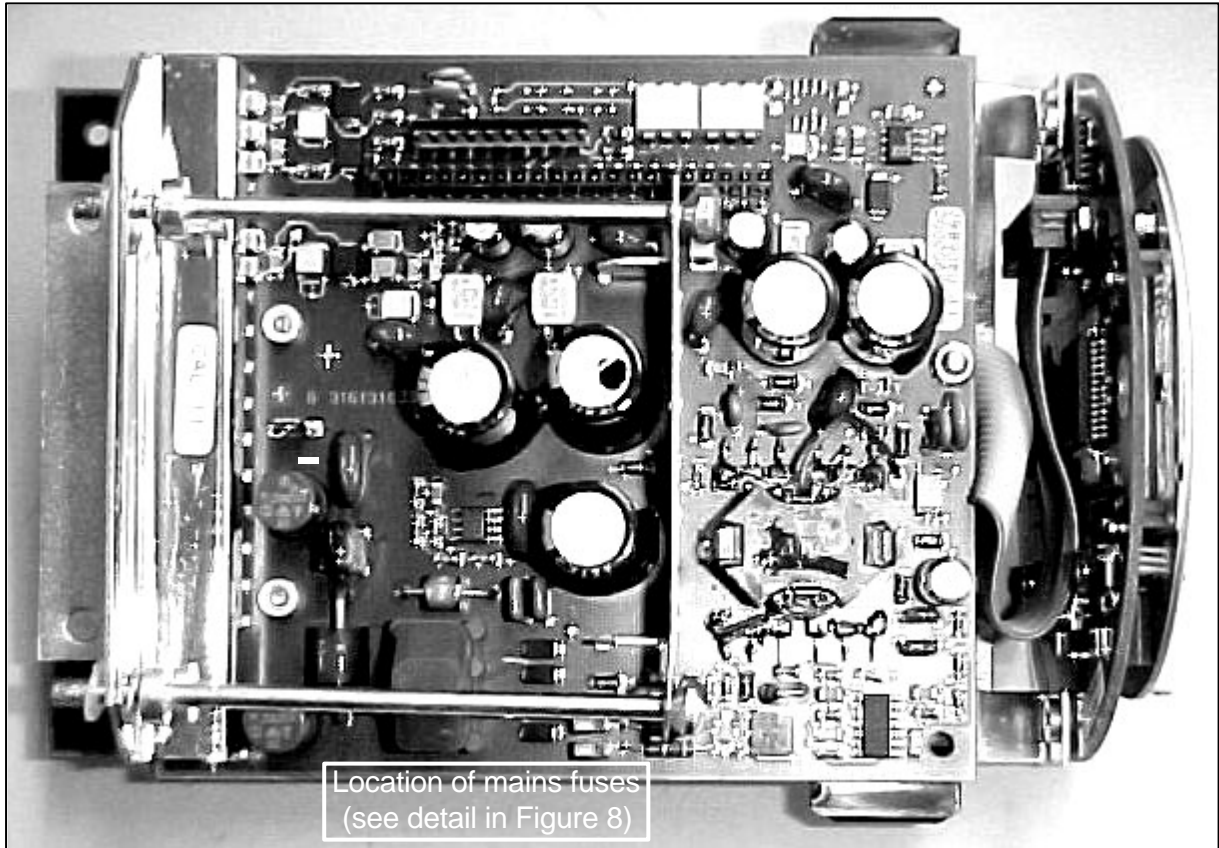

Figure 7: UFC 500-EEx electronics unit with 24 V AC/DC power supply.
4. The mains fuses F1 and F2 (see Figure 7 on the next page) can be replaced now. The 24 V AC/DC power supply uses two sub-miniature fuses rated **T1.25A** in accordance with IEC 127-3 publication.